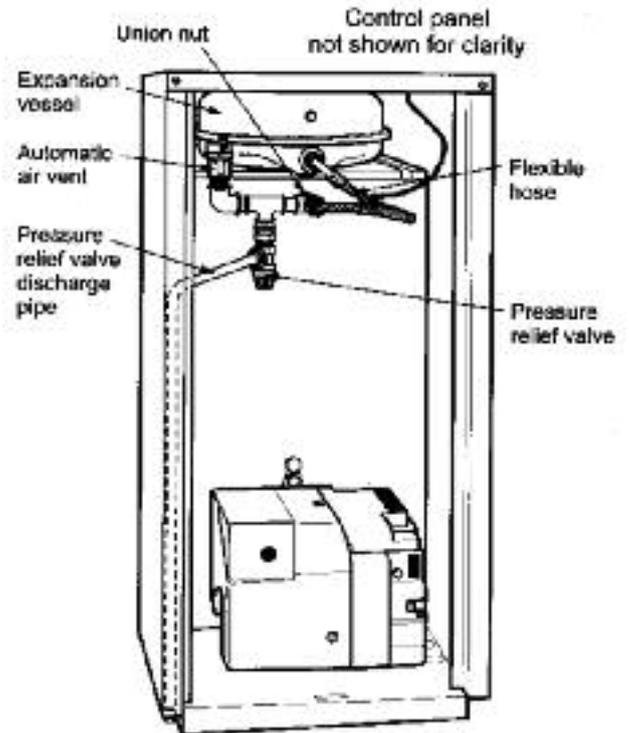

Fig. 15
See Figs. 15, 15a, and 15b
- 3 Connect the relief valve/automatic air vent assembly to the $3/4"$ connector, using the sealing washer and secure in position by tightening the union nut. See Fig. 15.
- Fit the pressure relief valve discharge pipe. See Fig. 15.
- 1 An automatic air vent is fitted to the top of the boiler (see Fig. 15 or 15c). Check that the small cap on the top of the air vent is screwed on fully, then unscrew it one complete turn - the cap remains in this position from now on.
- 8 Check the operation of the pressure relief valve (see Fig. 15 or 15c) by turning the head anticlockwise until it clicks. The click is the valve lifting off its seat allowing water to escape from the system. Check that this is actually happening, and water flows unobstructed from the relief discharge pipe.